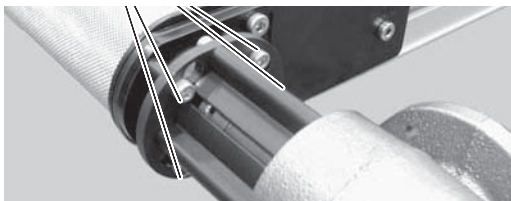

**Figure 44**
- e. Remove four (4) M5 mounting screws (Figure 44, item BH) and two (2) M8 mounting screws (BI).
- f. Remove gearmotor and mounting plate assembly (Figure 44, item BJ).